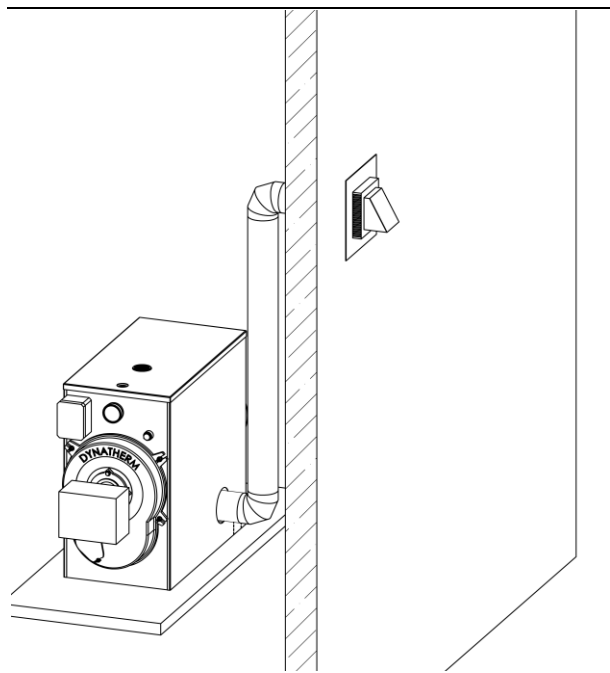

Figure 6 – Direct Vent
- a. See *Figures 6 & 7* below for basic diagrams.